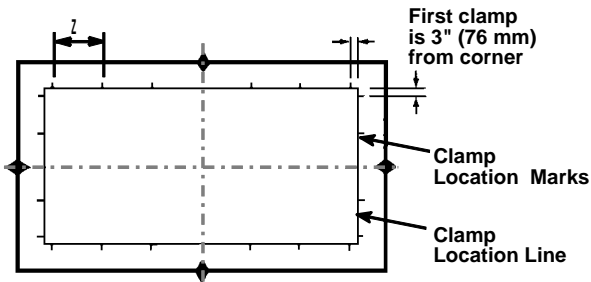

Figure 10. Mark the Clamp Positions
- From the first mark, make the remaining marks spaced at the intervals (Z) you calculated in Step O of the Worksheet. Refer to Figure 10.